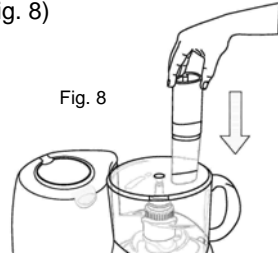

Fig. 8
- Keep hands and utensils away from the cutting blade while chopping food to reduce the risk of severe injury to persons or damage to the food processor. A scraper may be used, but **ONLY** when the food processor is **NOT** running and has been unplugged. **Never** feed food by hand. Always use the food pusher. (Fig. 8)